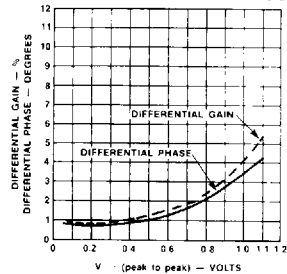

Fig. 2
9. Differential Gain and Differential Phase are measured with Tektronix NTSC Signal Generator (147A) and Vector Scope (520A). See Figure 2.